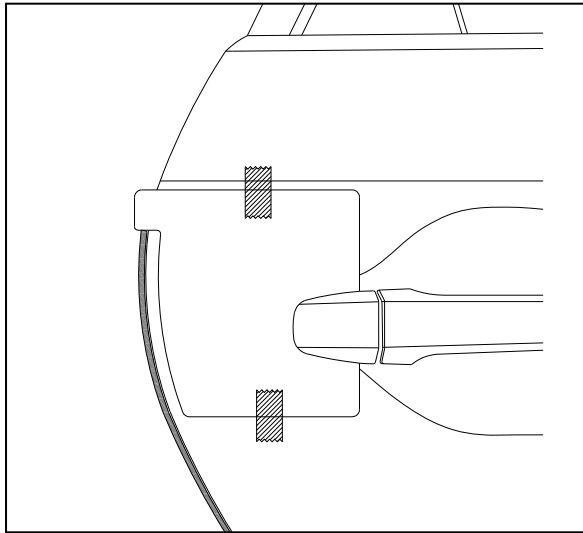

Fig. 1-3
**NOTE:** Top of DEG can be identified by matching the profile of DEG to the door profile. (Fig 1-3)